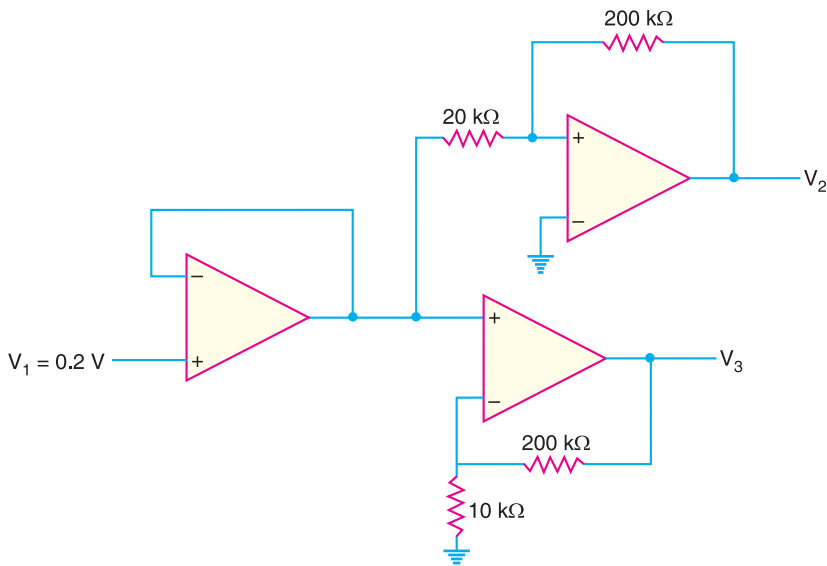

Fig. 25.108
15. Calculate the output voltages V_2 and V_3 in the circuit of Fig. 25.108.